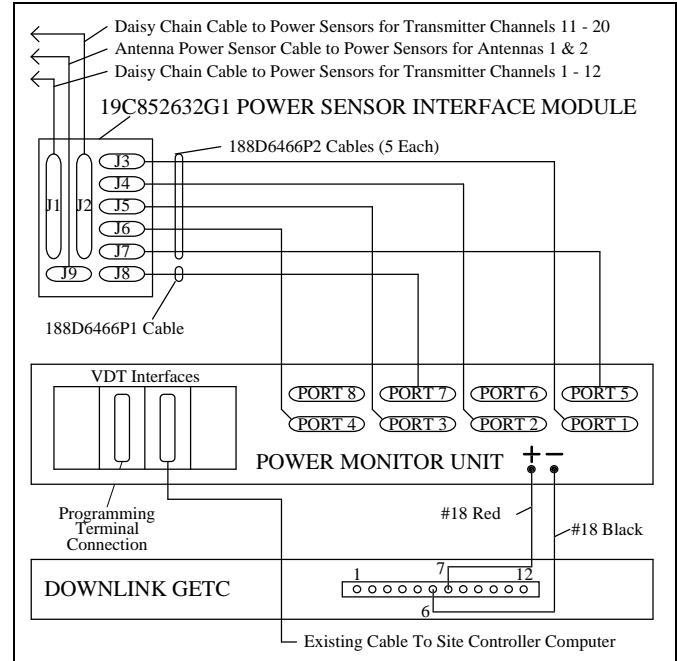

Figure 11 - Connections for Upgrade from Old PMU
18. Double check the installation using the interconnection diagram shown in Figure 11.